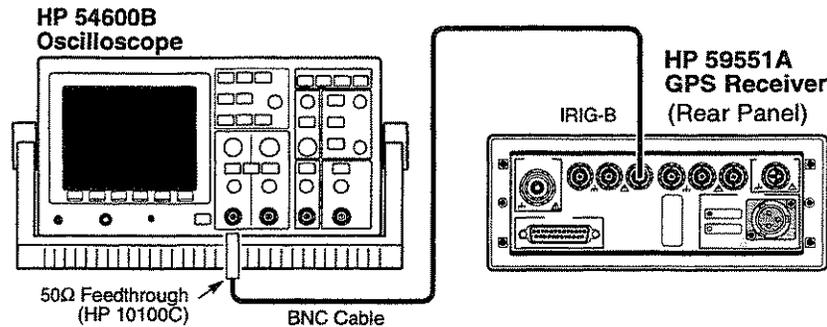

Figure 3. HP 59551A IRIG-B Operational Verification Setup
- 2 Connect the oscilloscope to the rear-panel IRIG-B output of the HP 59551A GPS Receiver as shown in Figure 3.